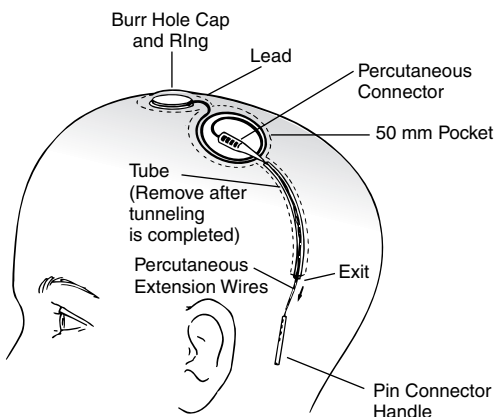

Figure 22. Tunneling and lead placement.
The following procedure provides instructions for attaching and implanting the percutaneous extension in the lead kit. The implanted wires should exit the skin above the ear during the test stimulation period (Figure 22).
- Pass the percutaneous extension wires through the tube. Leave only the pin connector and approximately 40 mm of the fine wires protruding from the exit point (Figure 22).